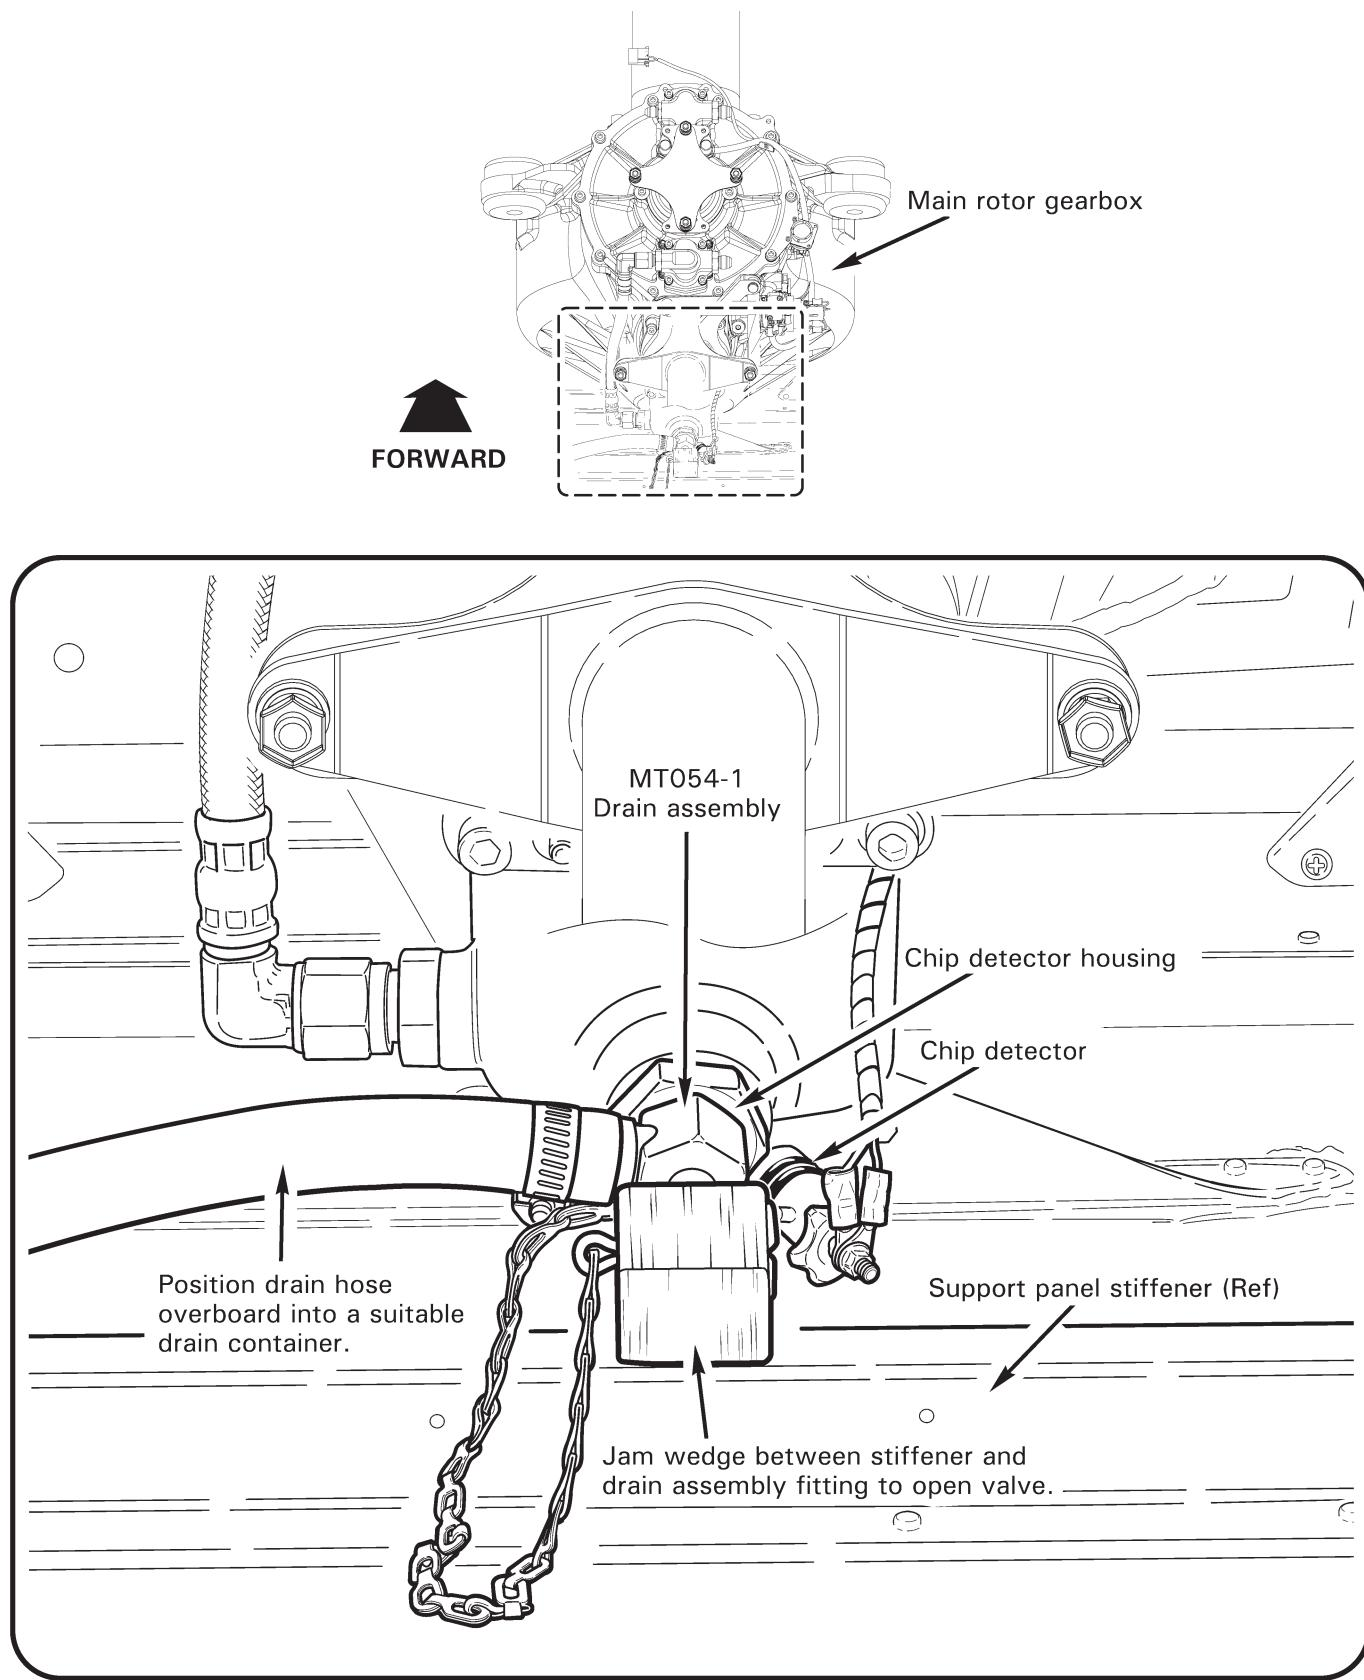

FIGURE 12-2 DRAINING MAIN ROTOR GEARBOX OIL
2. Refer to Figure 12-2. Insert MT054-1 drain assembly into chip detector housing. Position drain hose overboard into a suitable drain container. Jam wedge between support panel stiffener and drain assembly fitting to open valve.